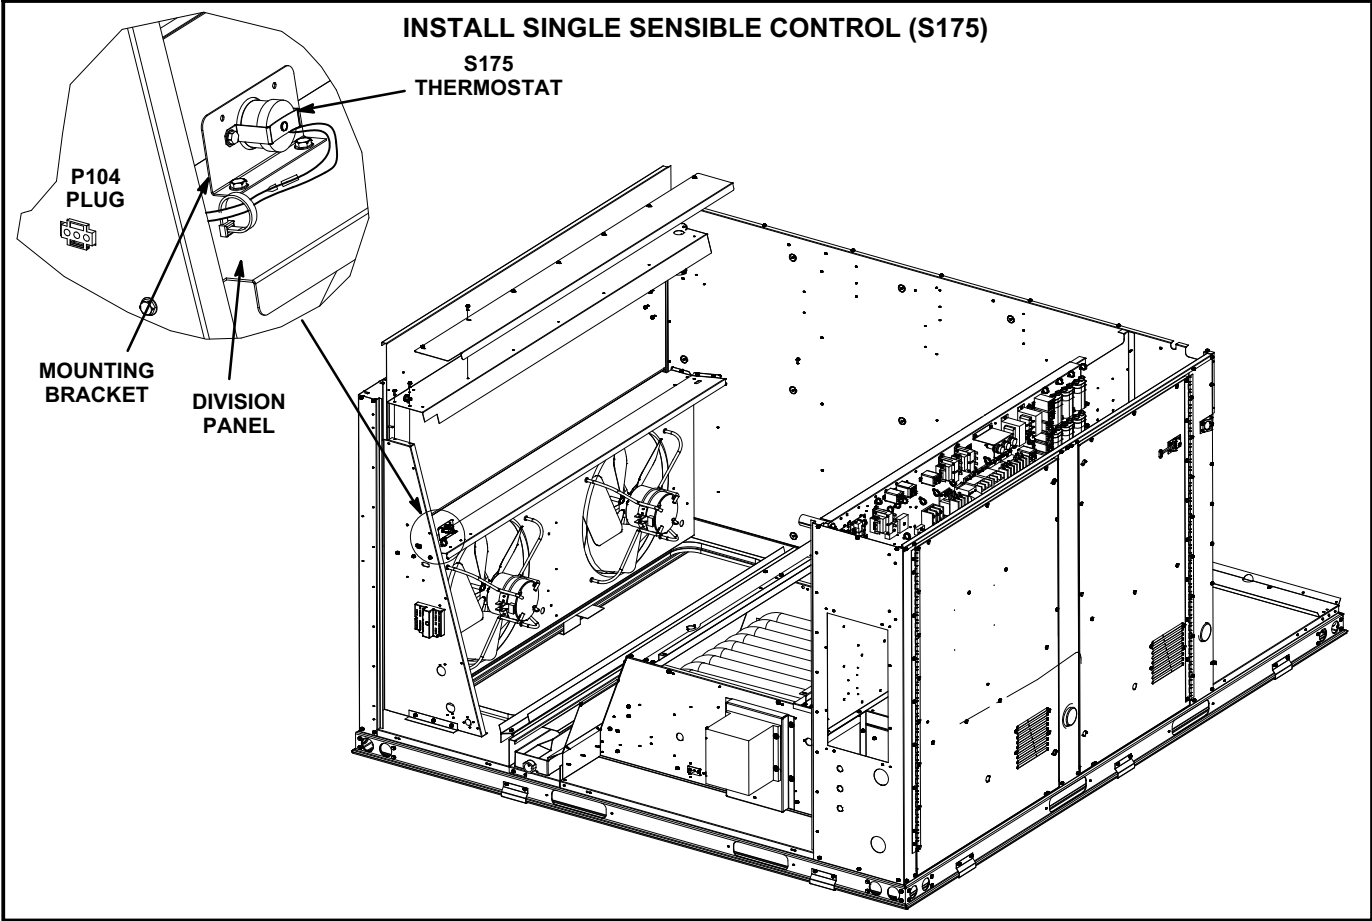

FIGURE 6
- 2- Install mounting bracket on divider panel as shown in figure 6.
- 2- Insert P104 plug into the side of the economizer as shown in figure 6.